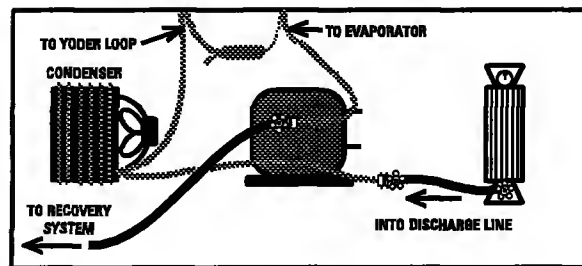
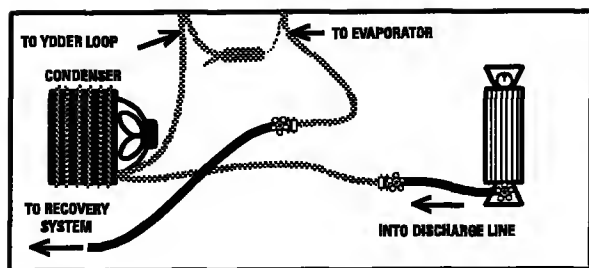
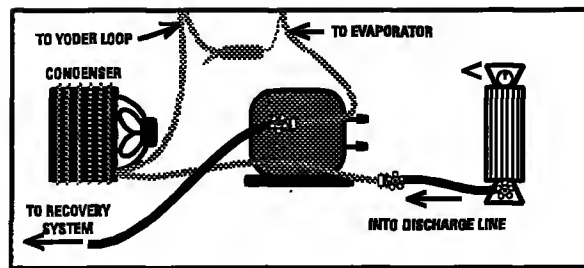

FIGURE 2
FIGURE 3
FIGURE 4
Score and break the suction line close enough to the old compressor to be able to reconnect it to the replacement compressor later. Attach a process tube adapter to the evaporator side of the suction line. Connect the hand valve and hose from the recovery equipment to this adapter (*figure 2*). Be certain that the pressure in the charging cylinder is about 30 p.s.i.g. above ambient temperature. Start the recovery unit and open the hand valve to the suction line. Release four (4) ounces of R134a from the charging cylinder into the system. It will take about 15 minutes for the refrigerant to pass through the condenser, yoder loop, drier, capillary tube, evaporator, suction line and into the recovery system. This 15 minutes time can be utilized to remove the old compressor (*figure 3*) and prepare the new compressor by mounting into place and wiring electrically. Remember to leave the plugs in place until brazing (*refer to figure 4*).